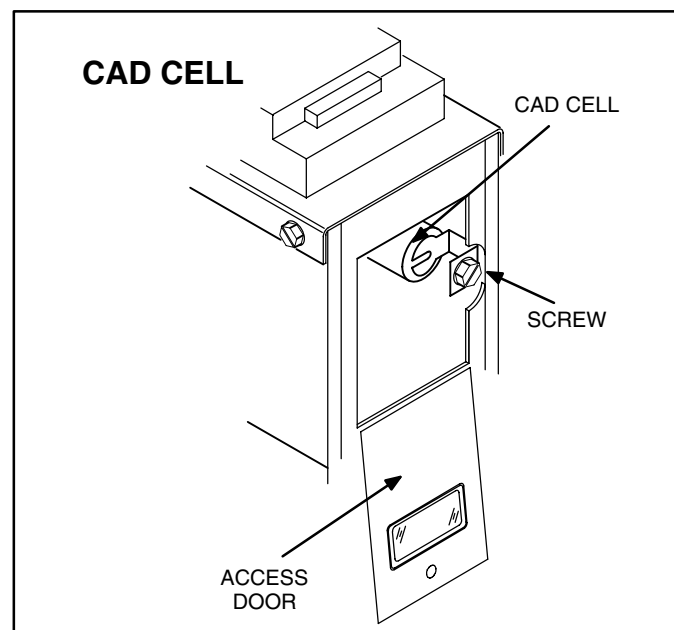

FIGURE 31
- 2- The cad cell will be located on the right side of the chassis wall hung on a bracket. See figure 31.